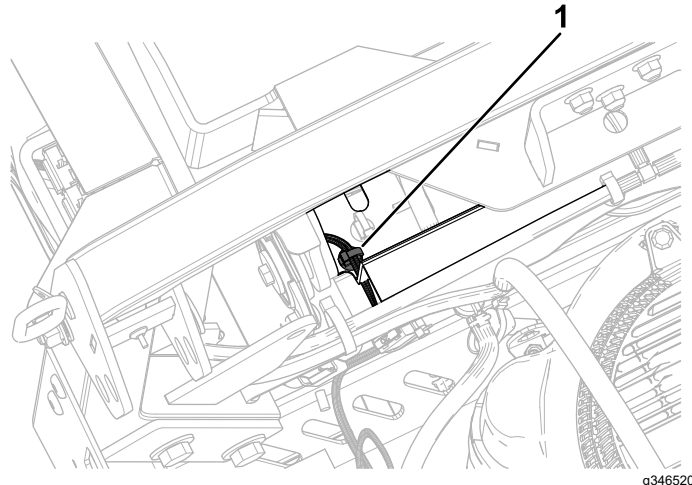

Figure 14
3. Install the second push-mount fastener into the rear fuel-tank bracket (Figure 14).